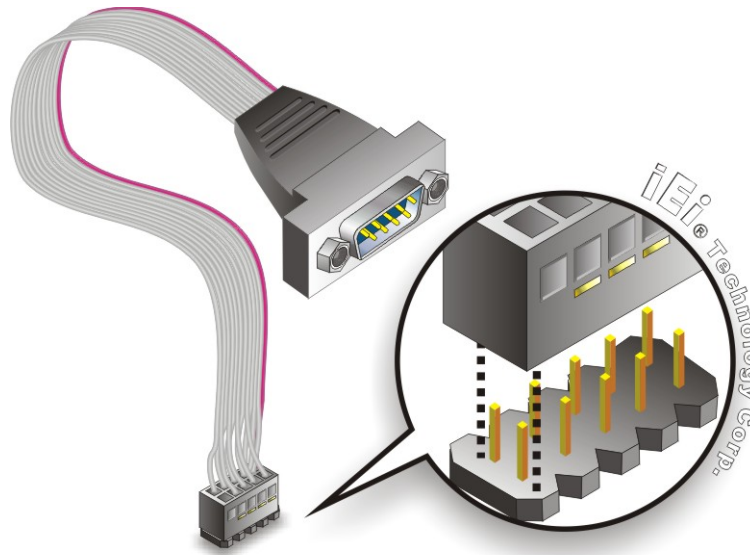

Figure 5-11: Single RS-232 Cable Installation
Step 2: Insert the cable connector. Insert the connector into the serial port box header. See **Figure 5-11**. A key on the front of the cable connectors ensures the connector can only be installed in one direction.